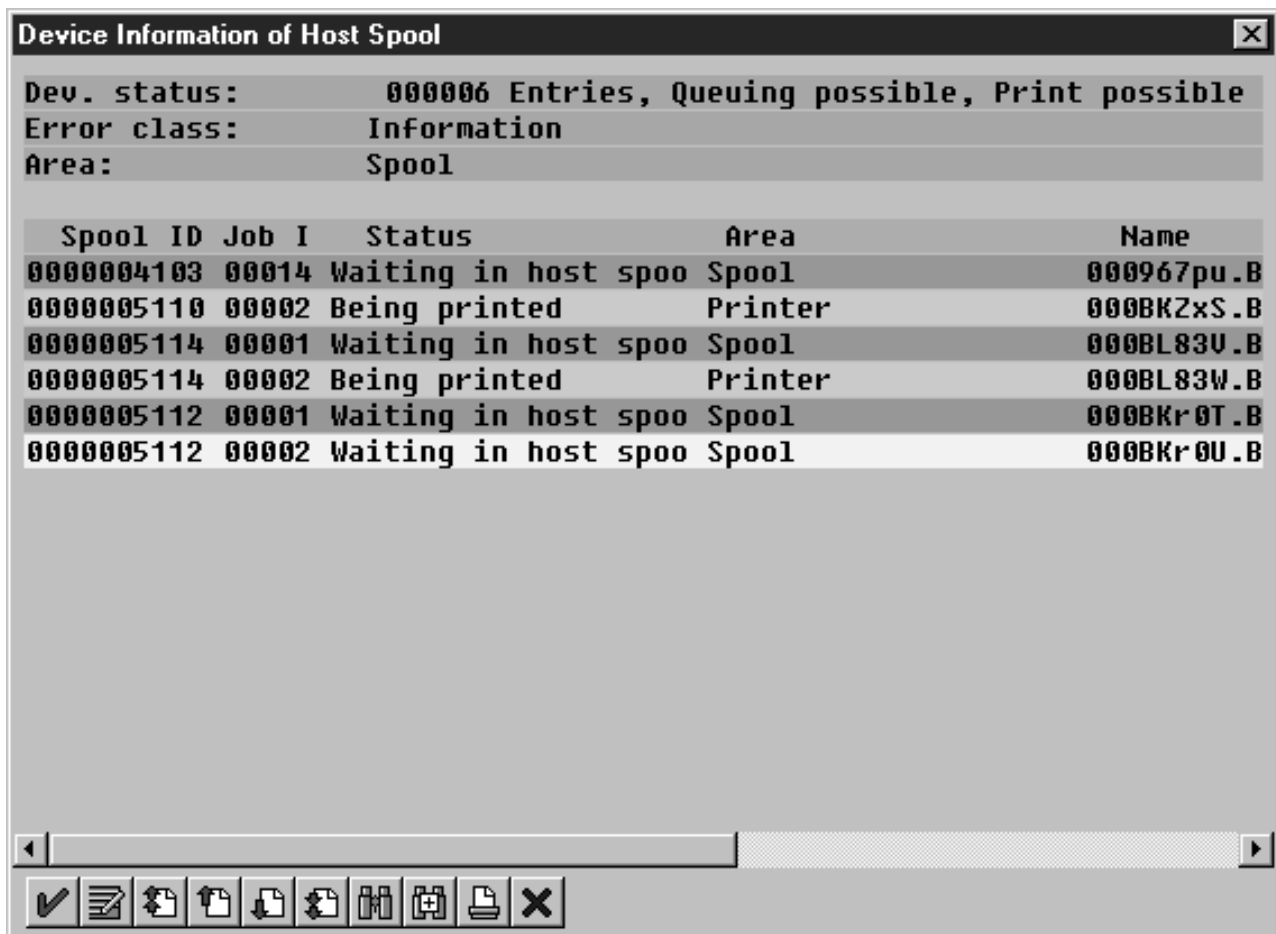

Figure 19. Device Information of Host Spool: first view
The **Device Information of Host Spool** pop-up window is displayed twice to capture both the right and the left sides. (1) This section indicates that there are six jobs in the Infoprint Manager queue, two of which are being processed by printers (Figure 19). (2) This section shows information about each job, including its current status in Infoprint Manager (Figure 20 on page 50).